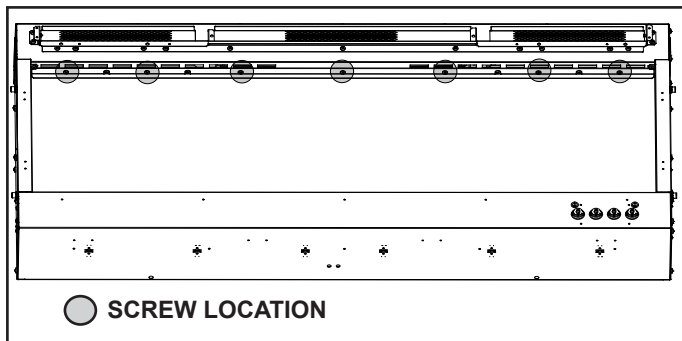

Figure 12. Bracket Screw Location
4. Remove Phillips screws from the bracket. Remove the bracket. Set aside. See Figure 12.